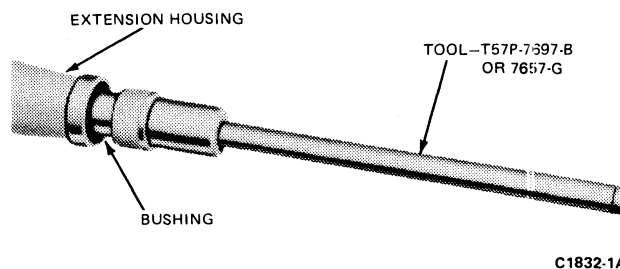

FIG. 6 Installing Extension Housing Bushing
1. Lubricate with C1AZ-19590-B or equivalent. Then drive a new bushing into the extension housing with the tool shown in Fig. 6.